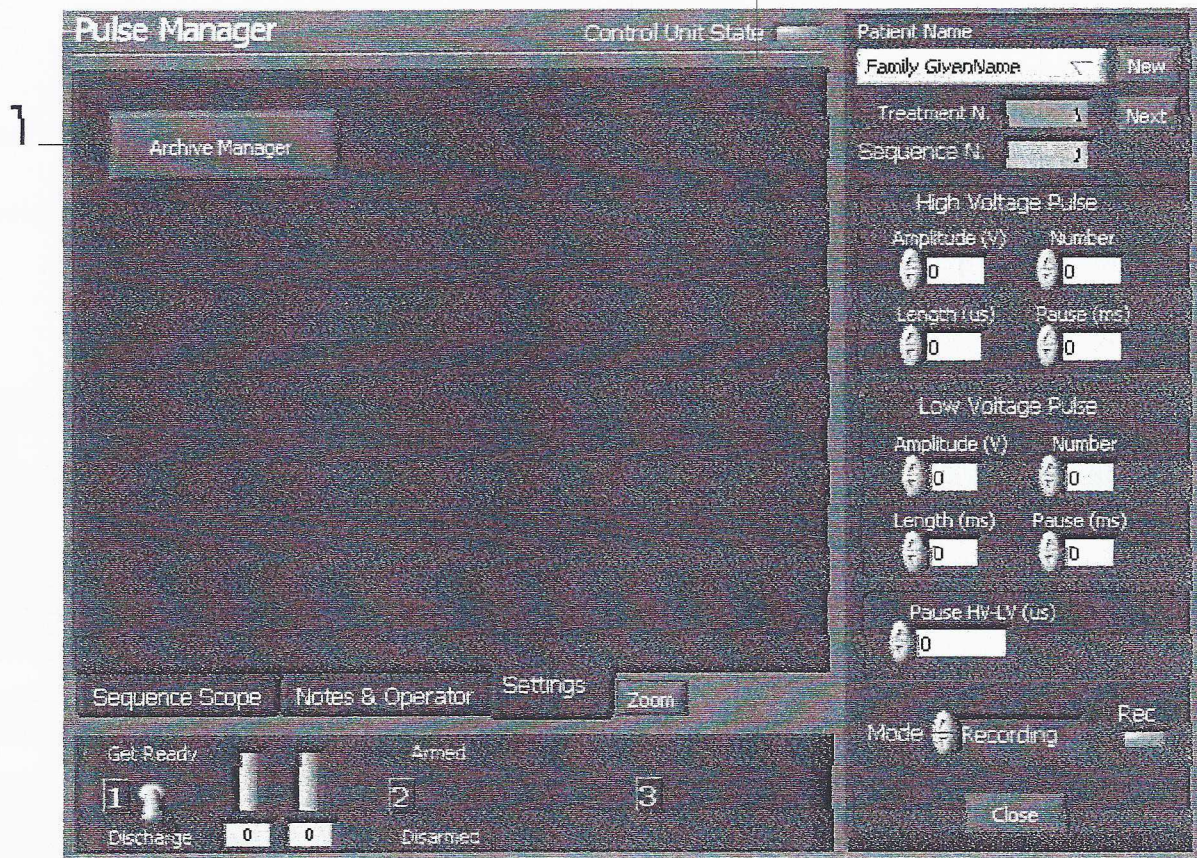

Figure 8. The Pulse Manager Settings Tab
31. **Settings** tab button. Click on **Settings** tab button switches to **Settings Tab View** (Figure 8)
The Pulse Manager Settings Tab View (Figure 8) presents: